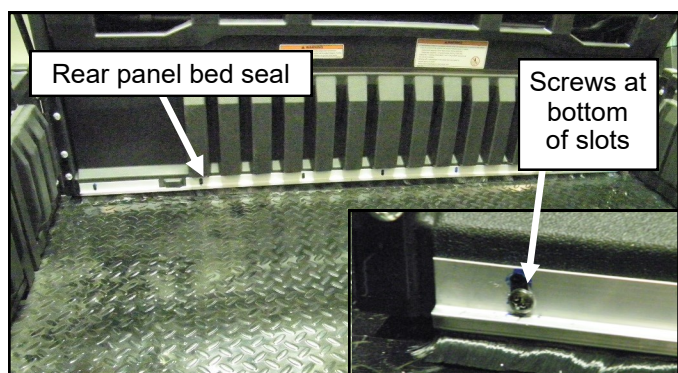

Fig. 2.2 Rear panel bed seal
**2.1** Convert the rear seat and cargo bed into the 3-seater, extended bed mode. Per figure 2.2, remove the four Phillips screws from the rear base of the seat assembly.
**2.2** Per figure 2.2, place the rear panel bed seal against the bottom rear of the seat assembly. Install (7) self-drilling screws at the bottom of the slots in the aluminum brush holder of the bed seal.